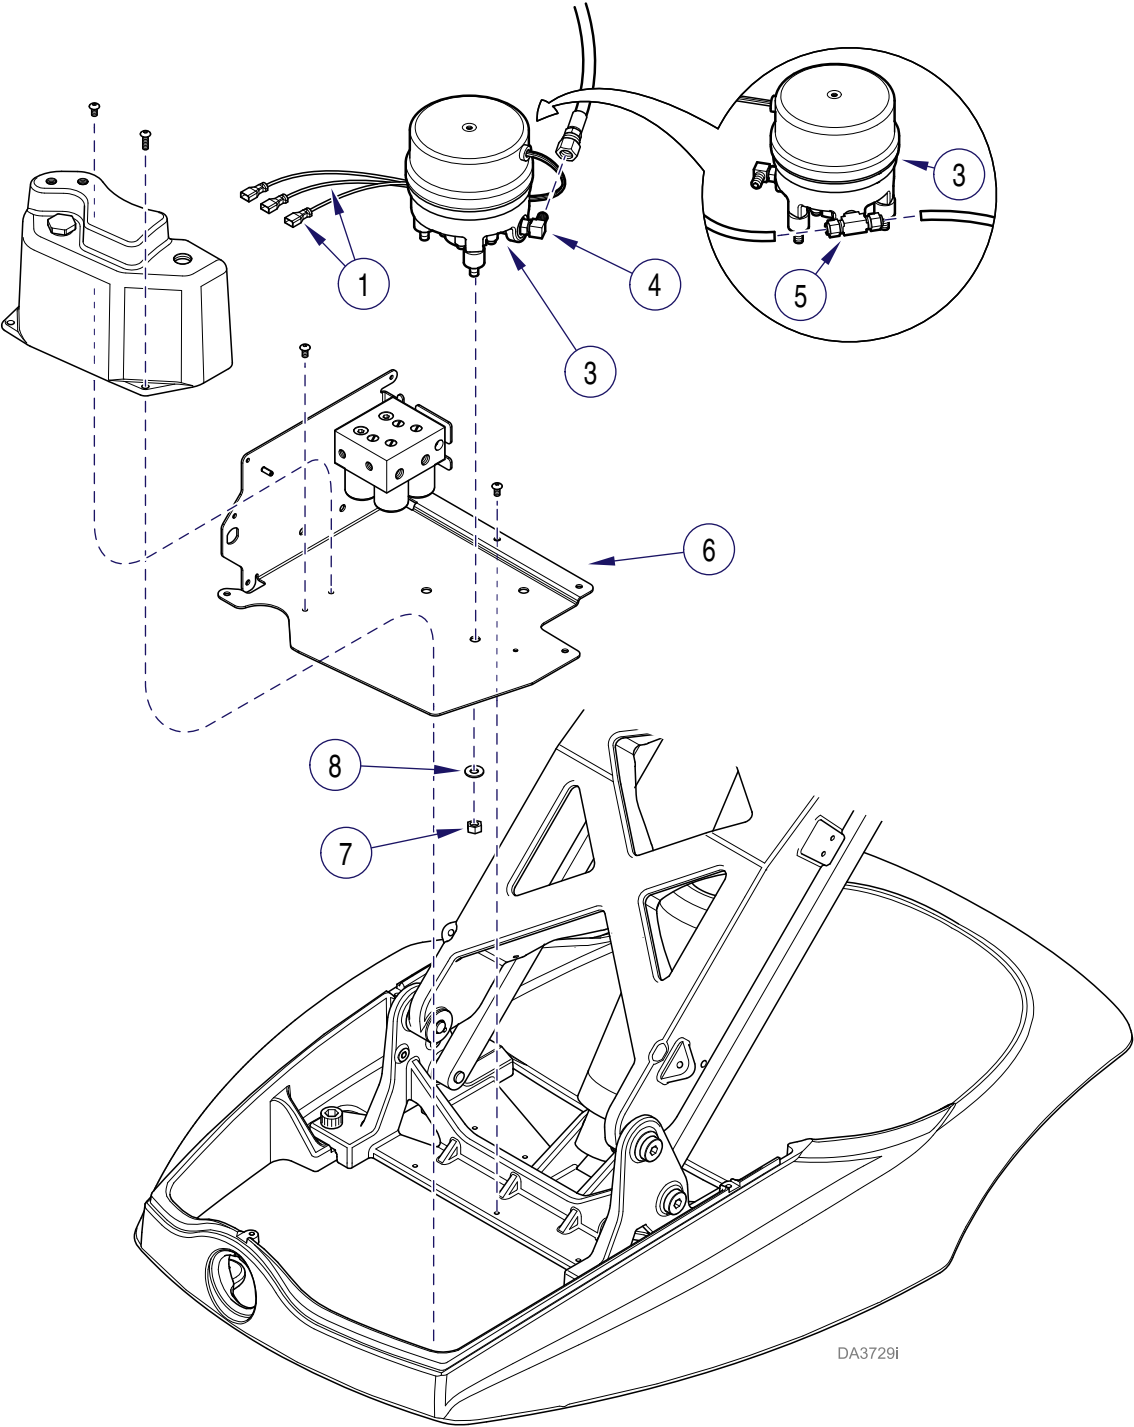

Figure 4-10. Hydraulic Motor Pump
- (2) Unplug chair power cord.
- (3) Remove hydraulic cover (refer to para. 4.3).
- (4) Tag, then disconnect motor pump electrical leads (1, Fig. 4-10)
- (1) Place motor pump (3, Fig. 4-10) in position on hydraulic chassis (6) and secure with three washers (8) and mounting nuts (7).
- (2) Secure hydraulic chassis (6) to base casting with seven mounting screws. Longer mounting screws are installed on reservoir base.
- (3) Connect appropriate hydraulic lines to pump outlet fitting (4) and inlet fitting (5) (refer to para 5.1 for schematics).
- (4) Connect electrical leads (1), (refer to para 5.1 for schematics).